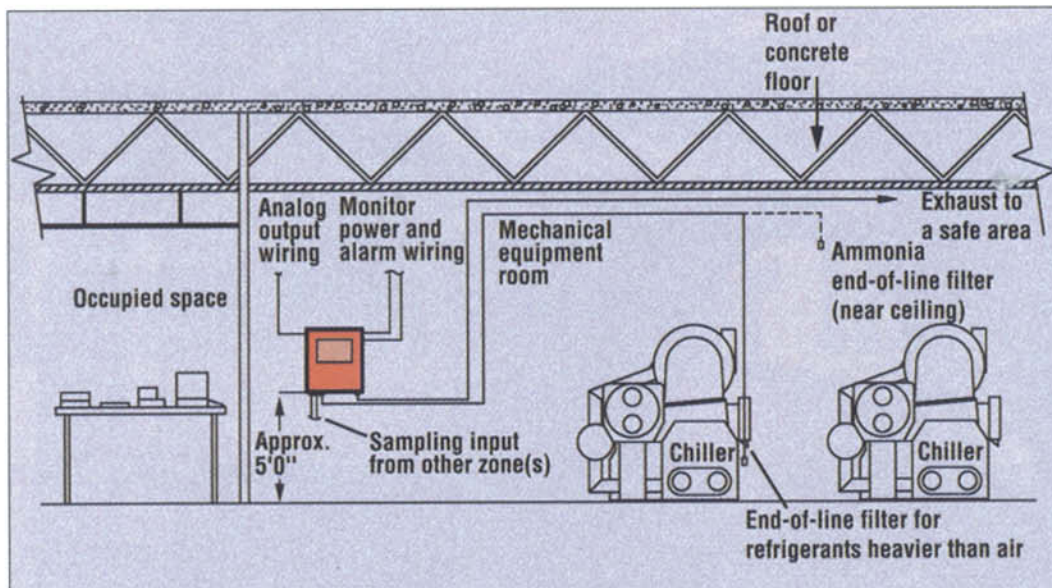

Figure 1. Install the leak monitor as close as possible to potential leak points.
- Locate the monitor and/or sample point as close as possible to potential leak points (see Figure 1 on page 18).